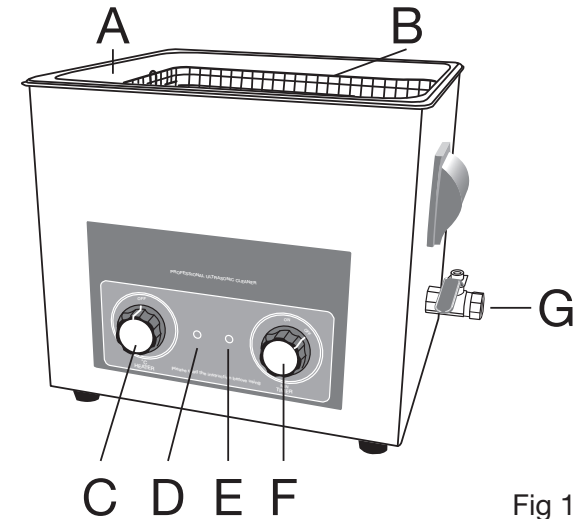

Fig 1
4. Refer to Fig 1. Check that the drain tap (**G**) is in the closed position, then carefully fill at least 2/3 of the tank with clean water or cleaning solution. Fill to a level where the tank will not overflow when the item(s) to be cleaned are added. The cleaner is now ready for use.